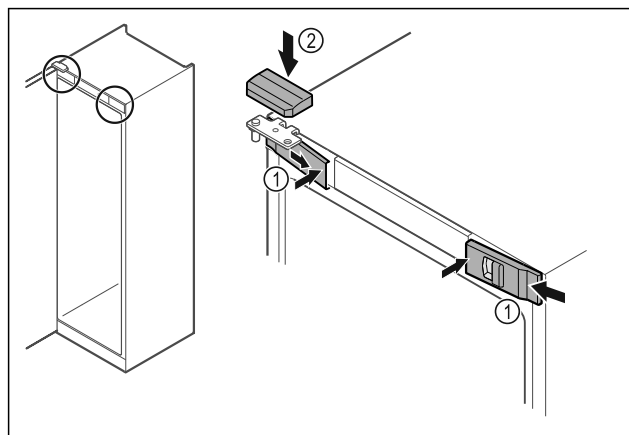

Fig. 55
- Hook in the front covers *Fig. 55 (1)* on the side and snap them into place on the inside.
- Snap on the top cover *Fig. 55 (2)* from above.